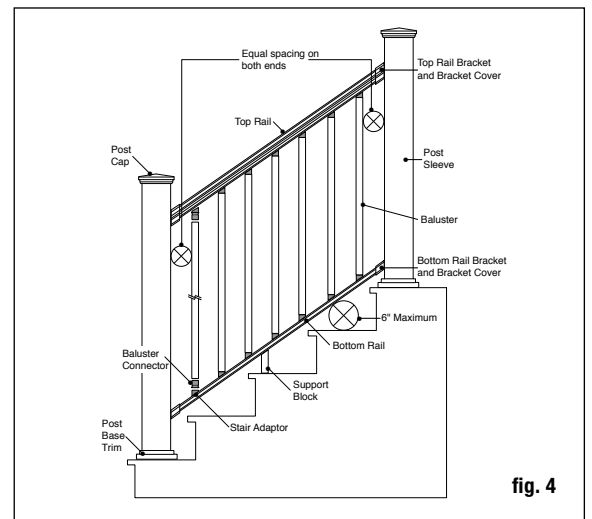

fig. 4
Step 7 Position the bottom rail between posts and center. Check building code requirements for maximum spacing on a staircase, typically less than 6". A 6" ball cannot pass through the triangle formed by the bottom rail, tread and riser (fig. 4). Mark the location of the bracket on both posts. Remove rail. Mark the screw locations and predrill through the post only using a number 2 drill bit.